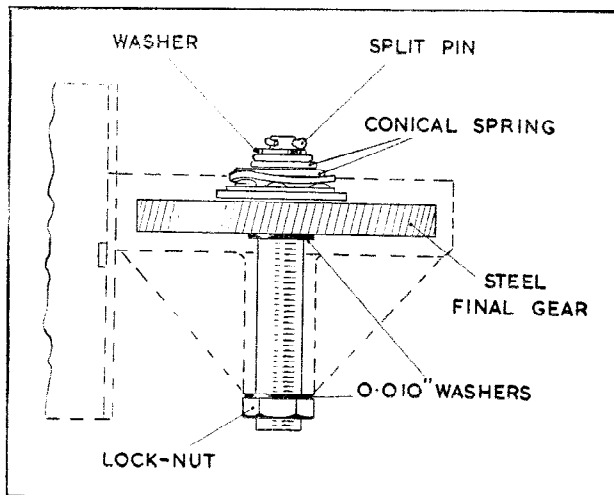
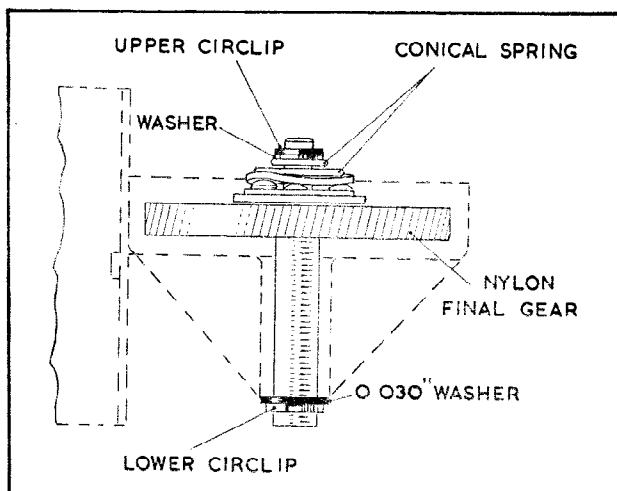

Fig. 6.
Fig. 7.
- (iv) The reassembly of the gearbox is in general a reversal of the procedure for dismantling. If a steel final gear has become worn it may be replaced by a nylon final gear. To do this it is necessary to retain the washer fitted between the conical spring and the split pin on the final gear, see Fig. 6. The two 0.010" washers, locknut and split pin fitted on the steel gear must be discarded. Fit the nylon gear as shown in Fig. 7, locating the new 0.030" washer above the lower circlip and the original washer below the upper circlip.